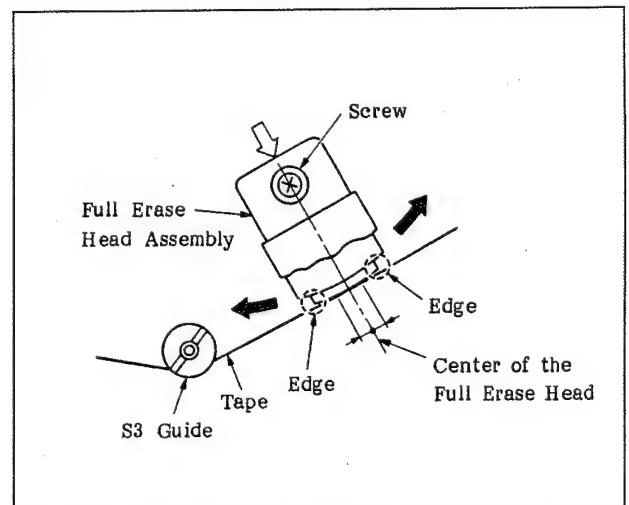

Fig. 6-56 Adjustment of the Position of the Full Erase Head
Note: To attach the shield case, lightly fix it with one screw (PSW3 x 12) by pushing the shield case in the direction of the white arrow shown in Figure 6-56. (Tighten the screw once, then loosen it by two or three turns.)
6. Adjust the full erase head assembly by moving it in the direction of the black arrows shown in Figure 6-56 so that the tape is in contact with the center of the head, and then tighten the screw firmly.